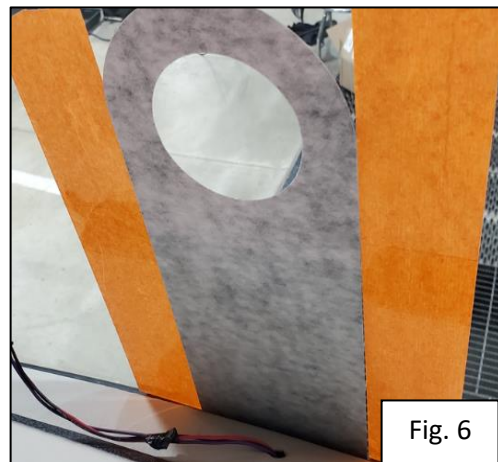

Fig. 6
- E. Remove the remainder of the liner. (Figure 6)